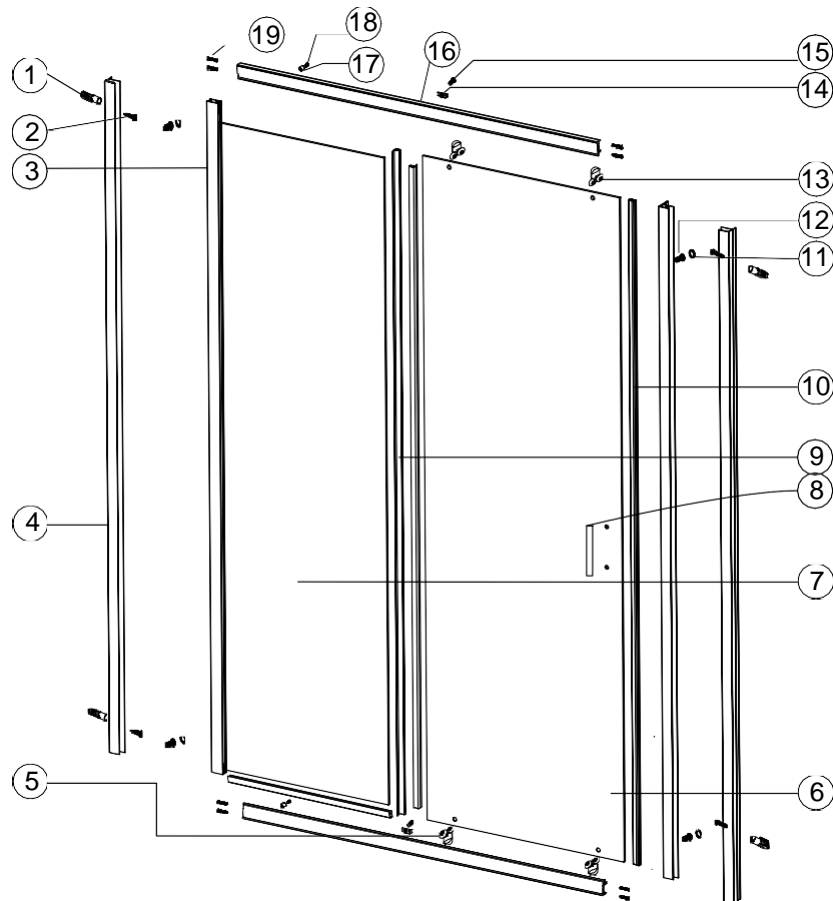

Figure 1
Fix the fixed glass using (14) glass clamps and (15) 3.9x13 screws as shown in figure 1